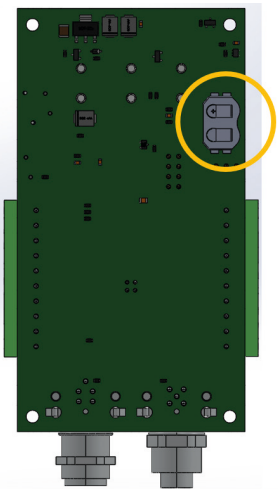

Figure 23. Coin Cell Location
6. On the underside of the BCI the coin cell can be found, shown in Figure 23.